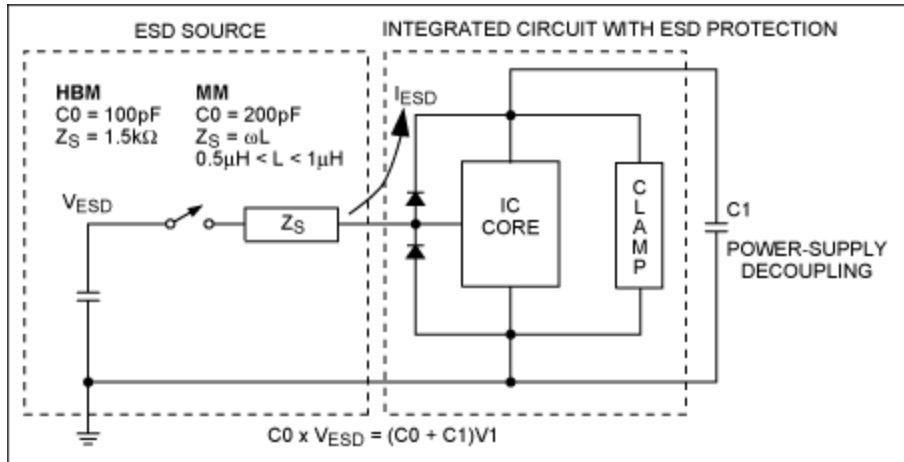
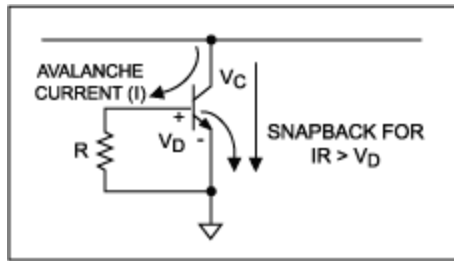

Figure 1. Models for ESD testing.
Figure 3. Clamp circuit for the clamp shown in Figure 1.
Two models of charged objects are commonly used for ESD tests (**Figure 1**). The human body model (HBM) represents charge stored on a person's body (the 100pF capacitor) with discharge through the skin (the 1.5kΩ resistor). The machine model (MM) represents charge stored on a metallic object. Discharge in the MM is then limited only by the interconnect inductance.
For the HBM in Figure 1, $Z_S = Z_{HBM} = 1.5\text{k}\Omega$
$$V_1 \times (C_0 + C_1) = V_{ESD} \times C_0 \text{ (See Figure 1.)}$$
4. The energy levels, when applied over a short period that can damage an IC, are on the order of micro-Joules. This is an important consideration when external supply decoupling capacitors are present. The energy delivered to the IC for supply capacitance (C_1) in Figure 1 is given by:
Standard protection schemes limit the voltage and current that can reach the IC core circuitry. Protection devices illustrated in Figure 1 include:
To determine whether an IC can handle an ESD level such as 2kV, consult the manufacturer's documentation. The rating for the IC will state the maximum voltage, V_{ESD} in Figure 1, which the IC can withstand for a specific type of ESD source. The ESD tolerance for a Maxim IC can be found in the device's reliability report.
Clamp operation in a bipolar IC is similar to the onset of breakdown in the core circuits being protected. **Figure 3** shows a detailed circuit for the clamp in Figure 1. Overvoltage on the clamp transistor results in avalanche current from collector to base. Forward bias of the base emitter further increases collector
The protection of the IC in an application can be improved by carefully selecting the size of the decoupling capacitors. Stored energy decreases with capacitance once the ESD charge no longer produces enough voltage to turn on the clamp. Consider this example for supply decoupling capacitor $C_1 \gg C_0$ in Figure 1: